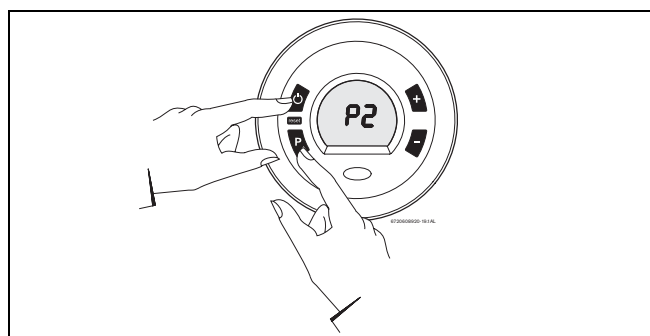

Fig. 57
- ▶ While holding the Program (P) button, press the ON/OFF button to turn ON the heater (→ Fig. 57).